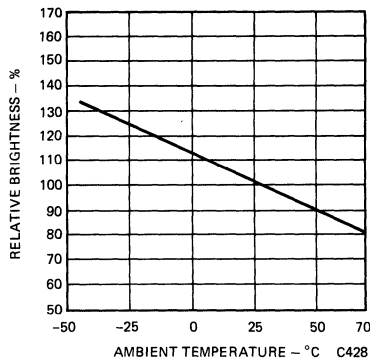

Fig. 3. Luminous Intensity vs. Temperature
- The curve in Fig. 3 is normalized to the brightness at 25°C to indicate the relative efficiency over the operating temperature range.